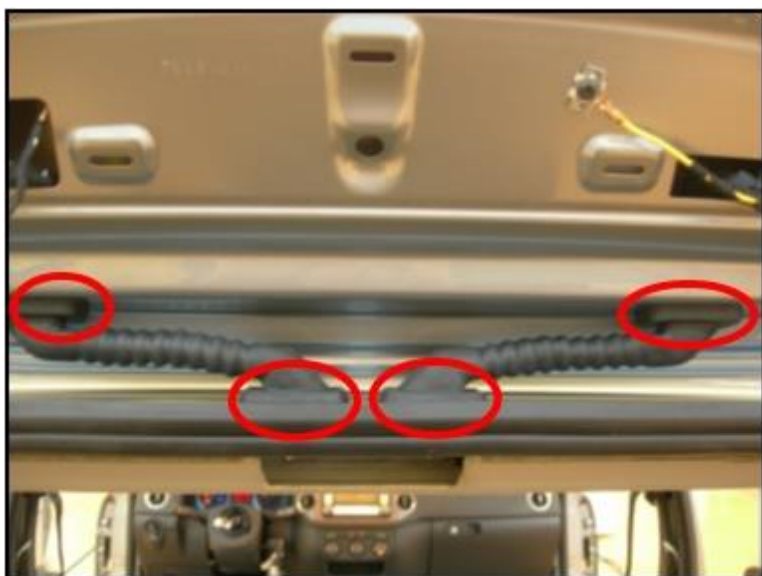

Figure 2
- Inspect the rear lid wiring harness grommet(s) installation to the rear lid and the body to ensure that they are locked in position correctly (Figure 2, red ellipses).